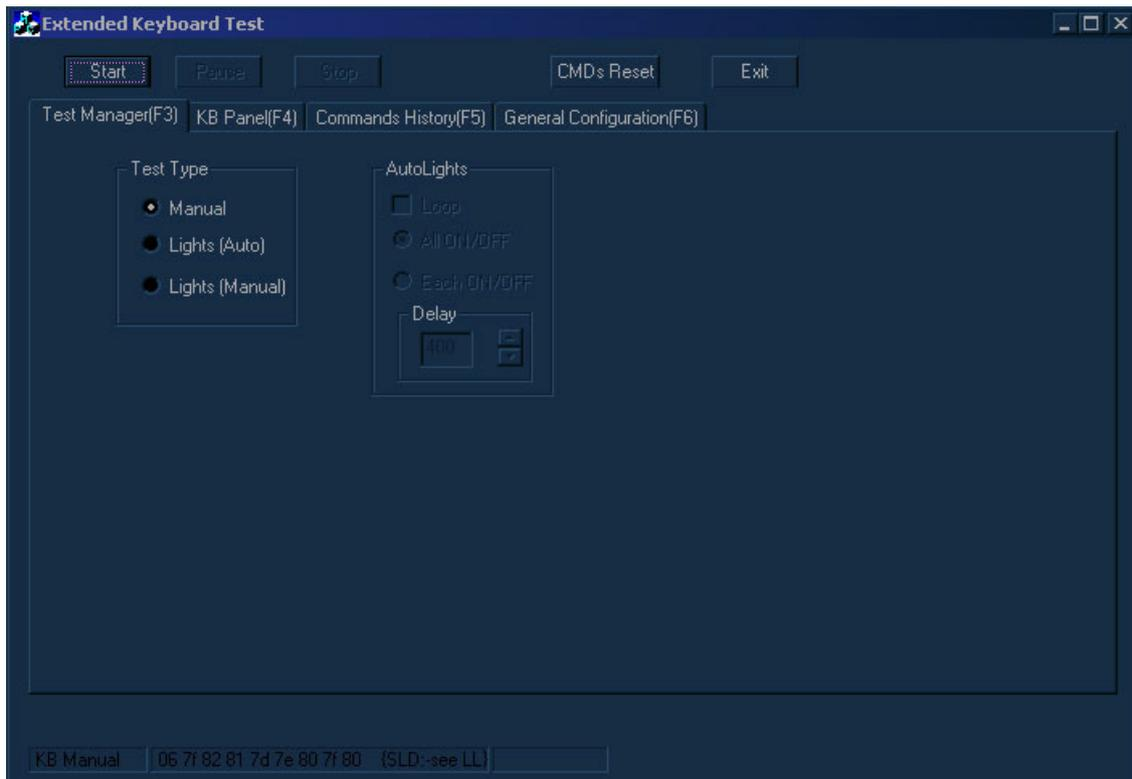

Figure 7-48 Test Manager Tab - Extended Keyboard Test Window
- 2) Trackball to the **External Keyboard** button and press **Select**. The *Extended Keyboard Test* window is displayed, as shown in Figure 7-48 on page 7-74.